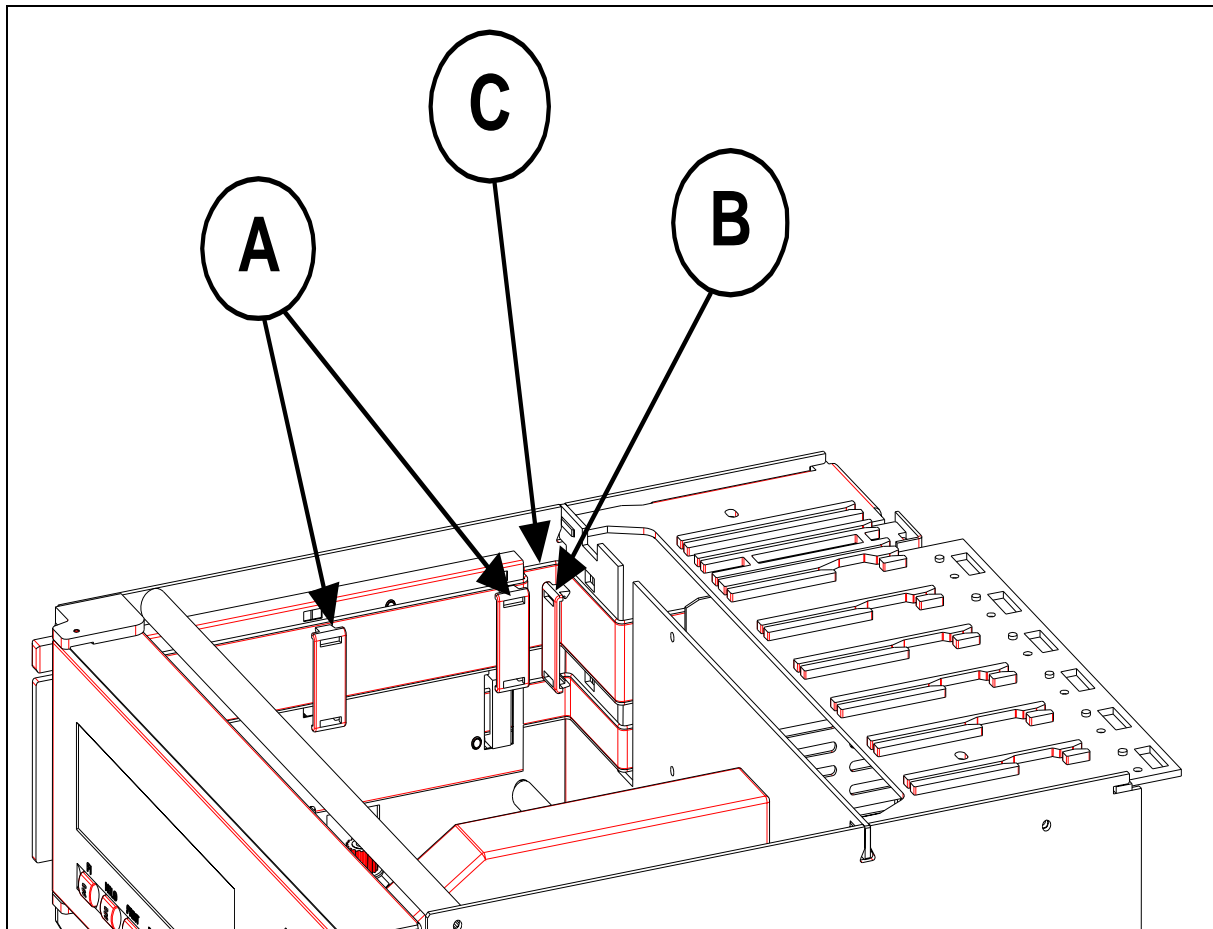

Figure 2-13
31. Fix it with the 2 flat cable clips supplied (with foam). (See ref. A, Figure 2-13)
- Put in place the MMI flat cable at the rear of the PCMCIA cover. (See ref. C, Figure 2-13)
33. Put in place the third MMI flat cable clip (not supplied) at the rear of the printer chassis. (See ref. B, Figure 2-13).